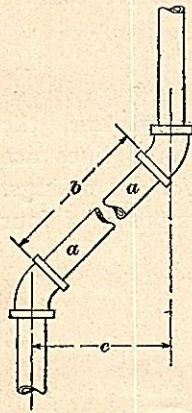

FIG. 21
**30.** In measuring for 45° fittings, the plumber must exercise considerable care. He may place the fittings in position and measure between them, using try pieces  $a, a$ , as shown in Fig. 21, which point straight toward each other, thus obtaining the measurement  $b$ , which will be the length of pipe required. In case, however, that it is inconvenient to do this, the exact measurement across at  $c$  may be taken, which if multiplied by 1.4142 will give the length of the diagonal line from center to center of the 45° fittings. From the length thus found must be subtracted the distances between the ends of the diagonal pipe and the center of the fittings.
**EXAMPLE.**—What length of pipe is required at  $b$ , Fig. 21, assuming that 1 inch is allowed between each end of the pipe and the centers of the fittings, and that the distance  $c$  is 4 feet 9 inches?